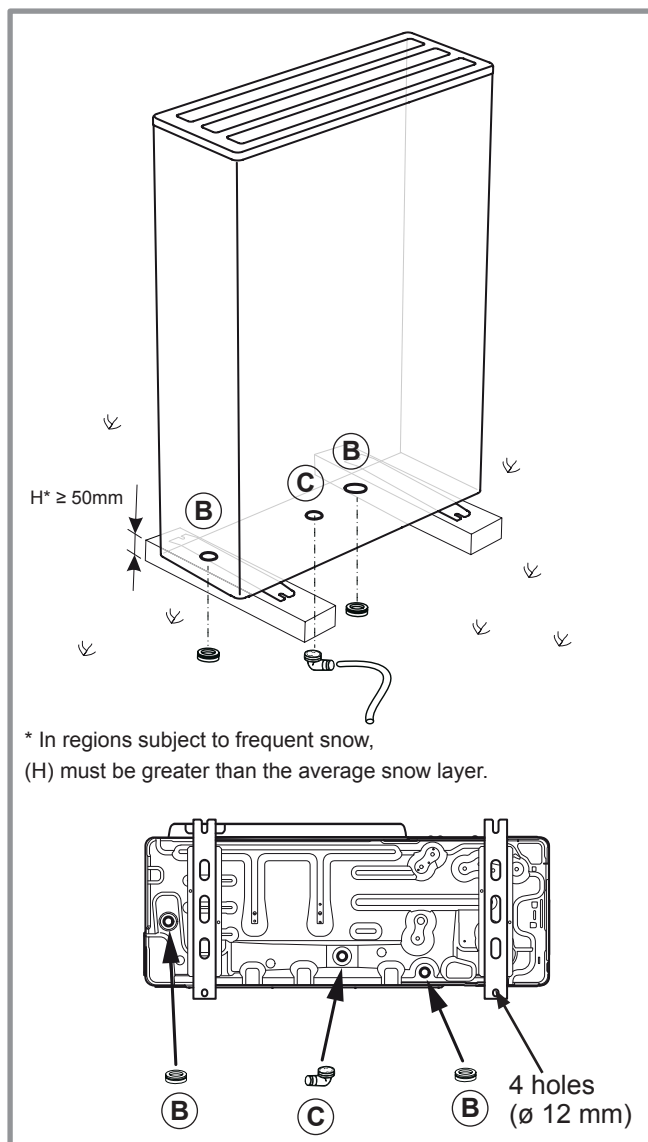

Figure 12 - Positioning of the outdoor unit, draining away the condensate
- Water may drain away from the outdoor unit when it is operating. Do not install the appliance on a paved terrace ; choose a well-drained place (e.g. gravel or sand). If the installation is in an area where the temperature can be lower than 0°C for a long period, check that the presence of ice does not present any danger. A drainage pipe can also be connected to the outdoor unit (see figure 12, page 14).
The outdoor unit must be raised at least 50 mm above ground level. In areas prone to snow, this height should be increased but should not exceed 1,5 m (figure 12).
(see figure 12).